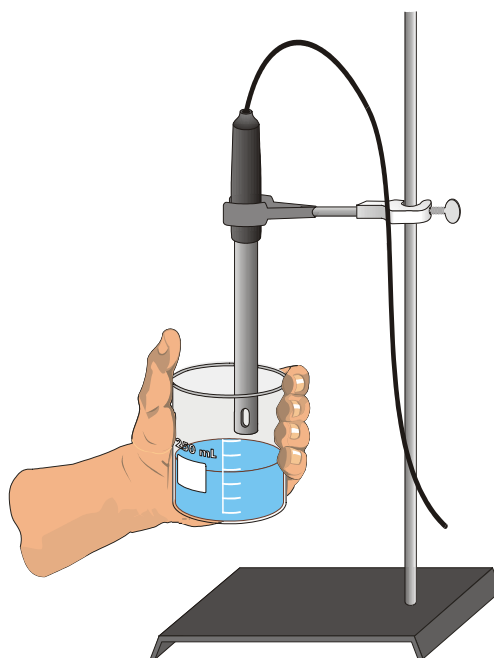

Figure 1
2. Secure the Conductivity Probe with the ring stand and utility clamp as shown in Figure 1.